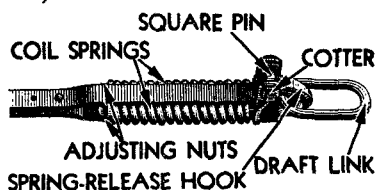
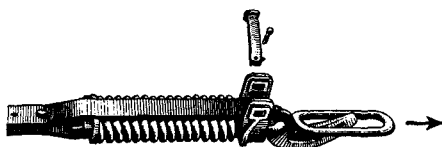

FIGURE 19—SPRING RELEASE
FIGURE 20—SPRING RELEASE
d. Cushion spring release hitch. The large coil springs (Figure 19) serve not only as a cushion for the load, but also as a safety feature. When a large rock or other obstruction is encountered by the plow, the coil springs in the hitch compress, releasing the draft link (Figure 20) and the plow becomes disconnected from the tractor. To re-attach plow to tractor, remove cotter from square pin. Remove square pin, put spring release hook in proper position, replace square pin and cotter. After removing obstruction causing disconnection of plow from prime mover, back up prime mover and attach draft link to drawbar.